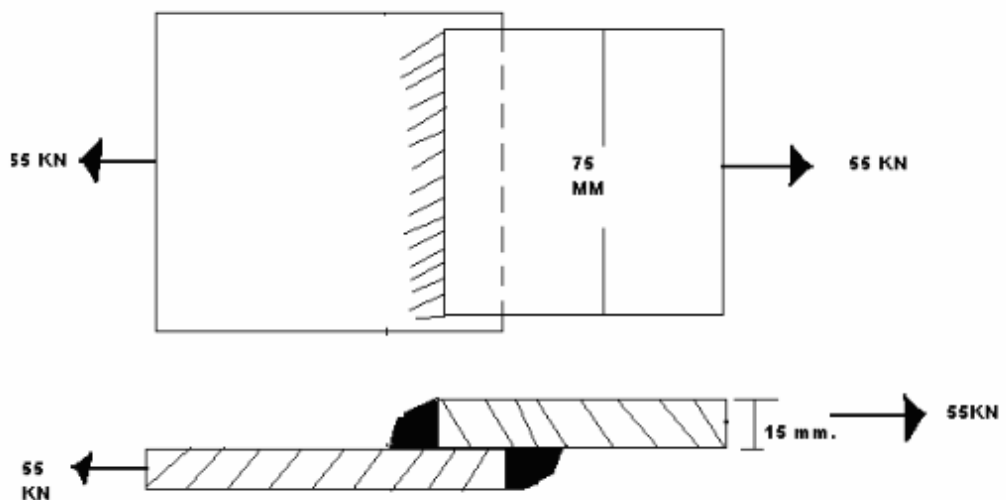

FIG. NO.3
- (b) A structural steel plate 75 mm wide and 15 mm thick loaded statically in tension by a load of 55 kN is welded to a plate with normal ‘ Transverse Lap Joint’ welds as shown in FIG.NO.3 Determine the size of the weld length required to withstand the load. **07**